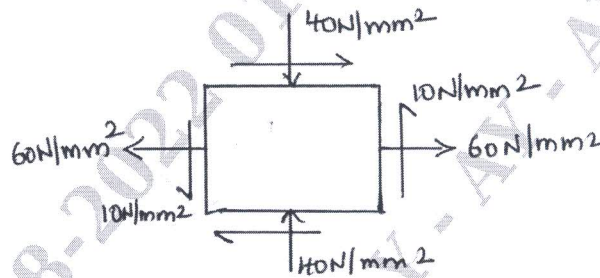

Fig.Q.3(b)
- b. A plane element is subjected to stresses as shown in Fig.Q.3(b). Determine principal stress, maximum shear stress, their planes and normal stress on maximum shear plane. Sketch the planes.